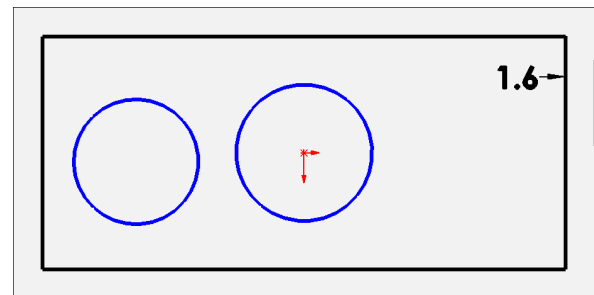

Fig. 39
Step 5. Click **Circle**  (S) on the Sketch toolbar.
Step 6. Sketch **two circles with one at Origin** , Fig. 39.